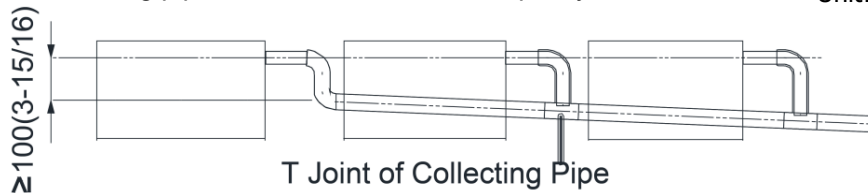

Fig 9.3.4
- (4) When connecting several drain pipes, follow the instruction as indicated in Fig 9.3.4. Choose the drain collecting pipe that matches with unit capacity.